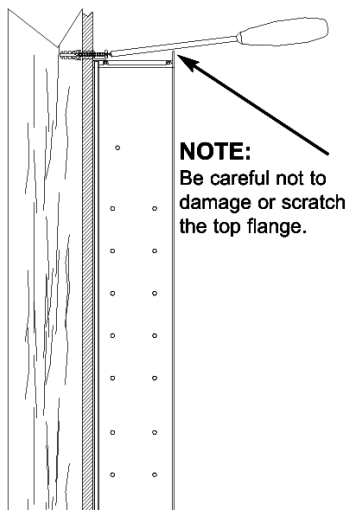

FIG 10
10. Attach z-clips with #10 x 1½" wood screws (Fig 10). Be careful not to damage or scratch the top flange.